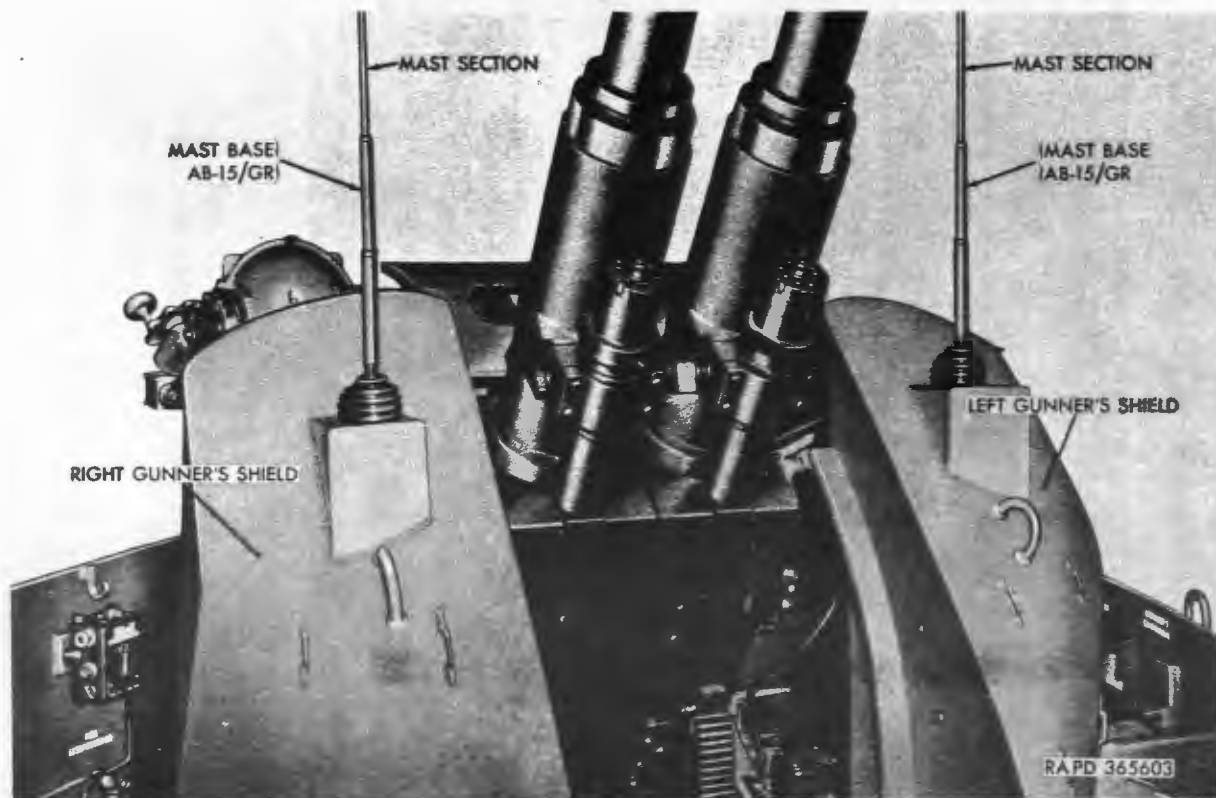

Figure 375. Antennae installed on gunner's shields.
i. Antenna (fig. 375). Two antennae are used with radio sets AN/VRC-8, 9, or 10. One antenna is mounted on each right and left gunner's shield. These antennae differ in length dependent on usage with different radio sets.